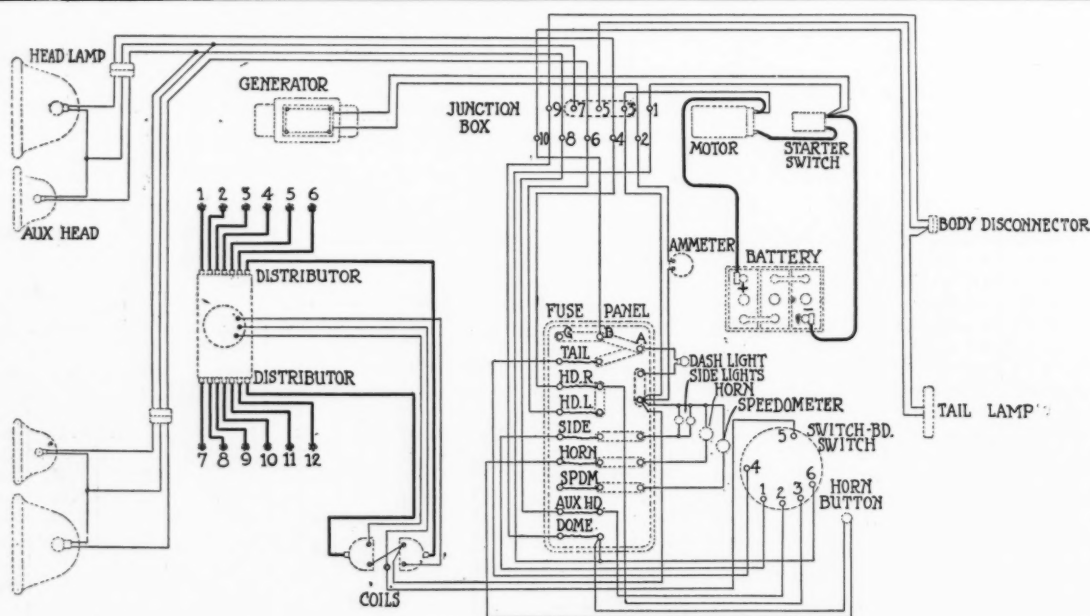
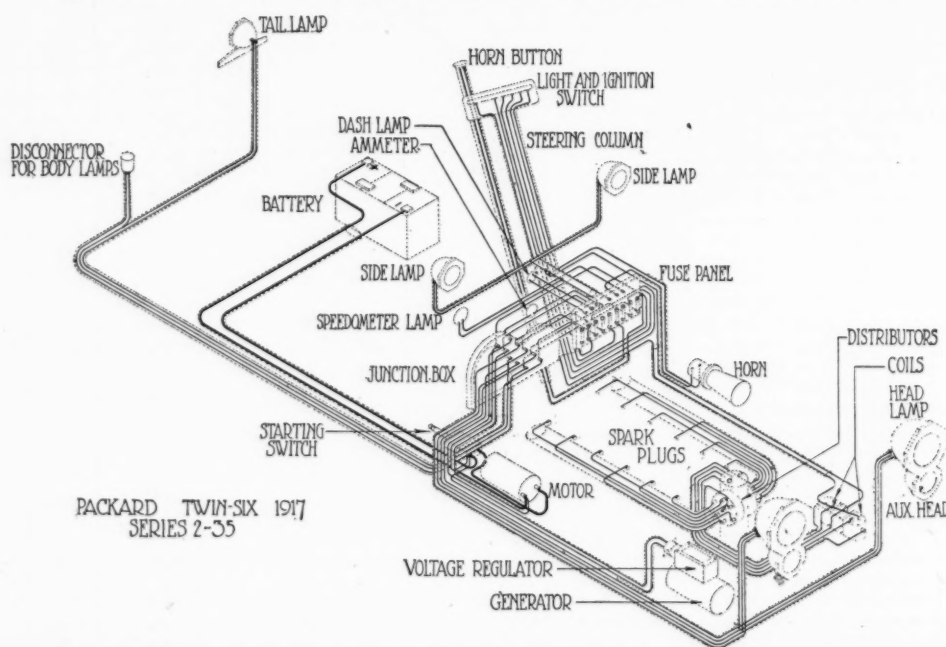

Fig. 680—Wiring diagram of Bijur installation on 1917 Packard, with Delco ignition
Fig. 681—Perspective view of Bijur installation on 1917 Packard, with Delco ignition
**A** WIRING diagram of the various electrical connections of the Bijur system on the Packard 1917 twin-six is given in Fig. 680, and a perspective view of the complete electrical installation is given in Fig. 681. This is a three-unit, two-wire, 6-volt system. The output of the generator is regulated by a constant-voltage regulator. This regulator and the automatic electromagnetic cutout are inclosed in a box mounted on top of the generator.